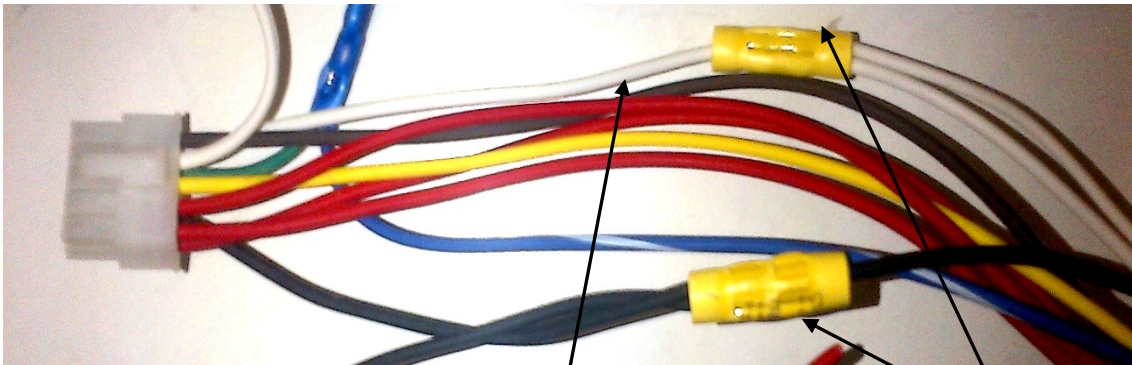

Figure 5
- 3 Locate the white wire on J1 connector Pin # 1 (engine run solenoid). Cut white wire about 6" down from the connector and connect white wire from digital speed sensor box to white wire going to the APU main unit with butt connection. (2 white wires connected together on one end). Connect the other end to the single white wire going to the power module J1 connector. (Figure 5)
- 4 Locate the black wire on J1 connector pin # 4 (ground). Cut the black wire about 6" down from the connector and connect black wire from digital speed sensor box to black wire going to the J1 connector. (2 black wires connected together on one end). Connect the other end to the single black wire going to the APU main unit. (Figure 5)